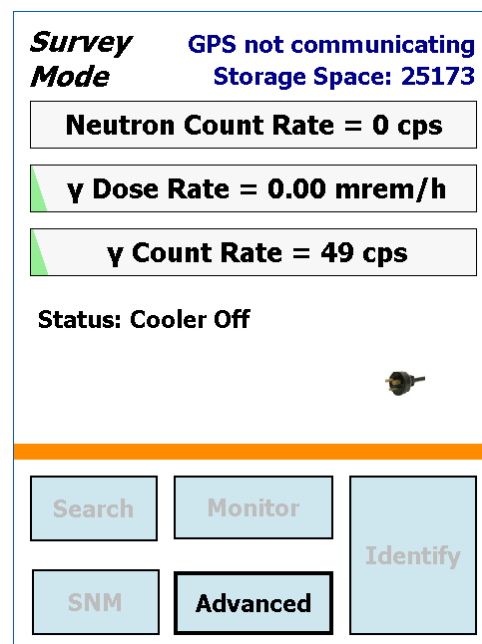

Figure 7. The Display at Startup.
- Note the **Status** indicator on the display. On startup it will read **Status: Cooler Off** as shown in (Fig. 7).